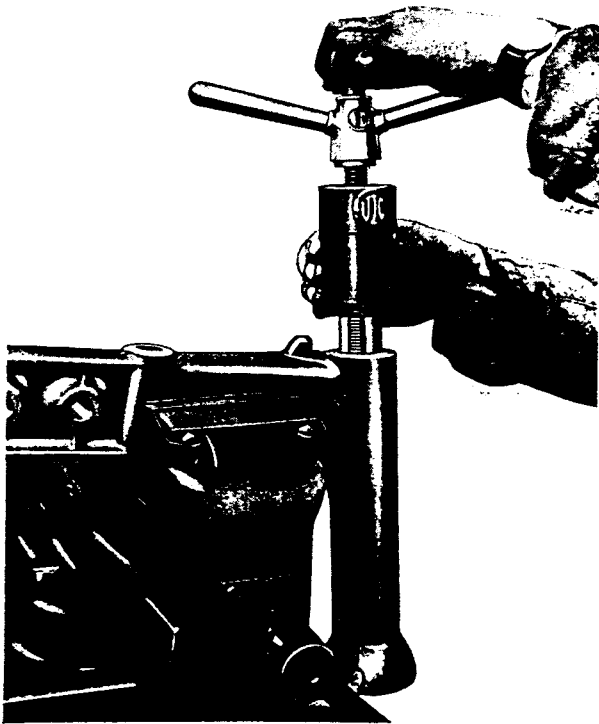

FIG. 4
2. Treating upper and lower bushes in turn, mount bush remover, FT.17, as shown in Fig. 4, rotating smaller lever to enable tap to make a deep cut into bush, then turning larger lever to withdraw bush.